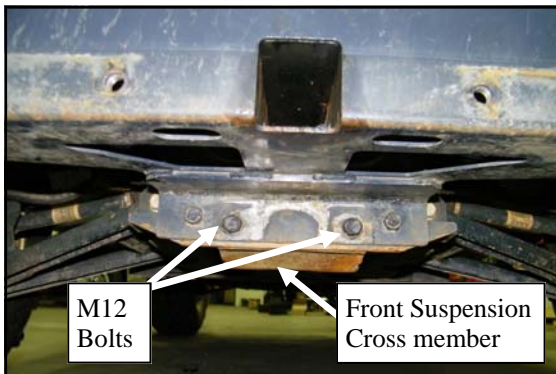

Fig 1.1 Mounting Hitch Front Mounting Plate
- 1.2 Remove and discard the two M12 bolts holding brush guard or front bumper to the front suspension cross member. The two bolts will not be reused with the snow blade mounting frame installed. See Fig 1.1.